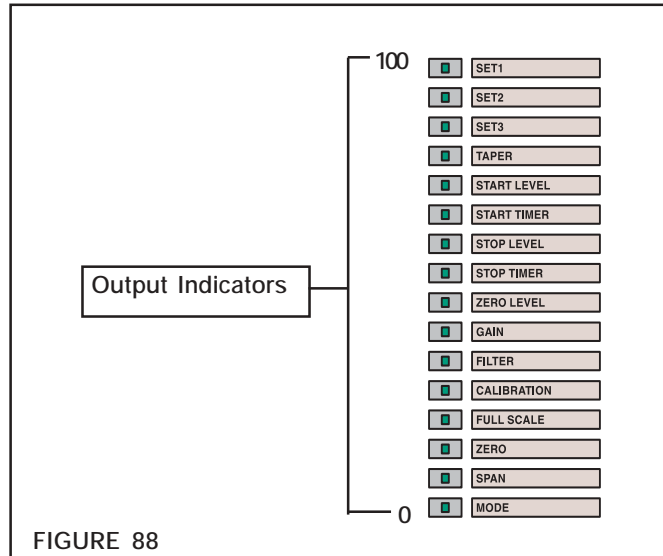

FIGURE 88
2. Observe the output level by noting the number of Output Level Indicators (See Figure 88) that are illuminated as the web tension approaches the setpoint tension value.
In Manual mode, the tension sensors are used only to read web tension, and the Output Indicator scale (shown in Figure 88) displays the level of the controller's output. Each indicator is 6.5 percent of Full Scale representing the 4 - 20 mA and 0 - 10 VDC output over a range of 0 to 100 percent.